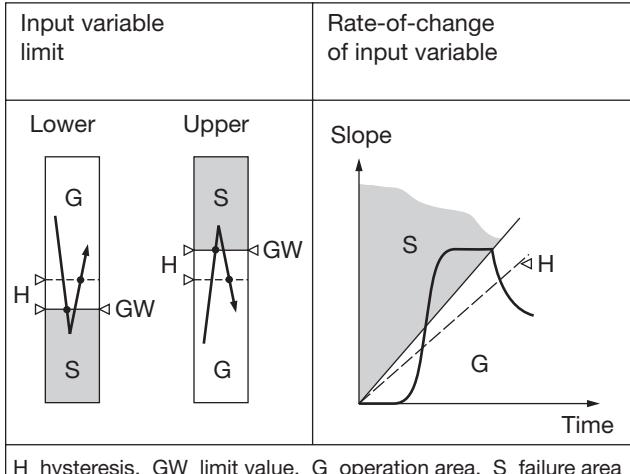

Fig. 3. Switching function according to limit monitored.
– for monitoring the input variable in relation to a lower or upper limit between – 10 and +110%2 (see left side of Fig. 3)
between ± 1 and ± 50%/s2 (see right side of Fig. 3)